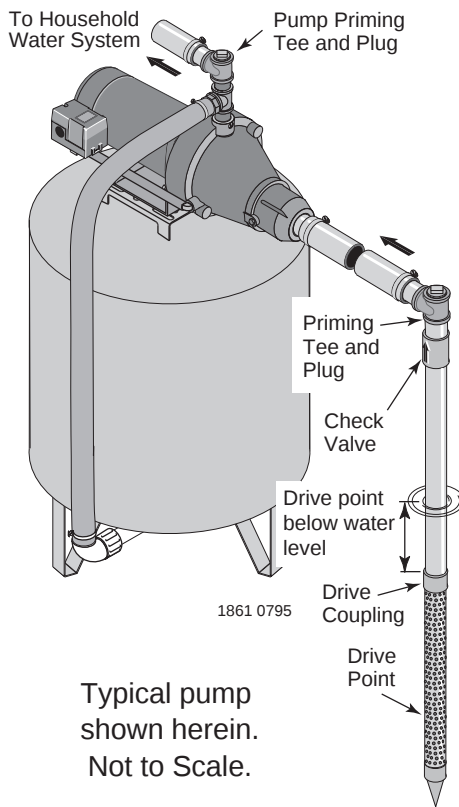

Figure 1: Driven Point Installation
Well Point (Driven Point) Installation (Figure 1)
3. Use the fewest possible fittings (especially elbows) when connecting the pipe from the well point to the pump suction port. The suction pipe should be at least as large as the suction port on the pump (include a check valve if your pump is not equipped with one – see Figure 1). Support the pipe so that there are no dips or sags in the pipe, so it doesn't strain the pump body, and so that it slopes slightly upward from the well to the pump (high spots can cause air pockets which can air lock the pump). Seal the suction pipe joints with Teflon™ tape or a Teflon™ based pipe joint compound. Joints must be air- and water-tight. If the suction pipe can suck air, the pump cannot pull water from the well. If one well point does not supply enough water, consider connecting two or three well points to one suction pipe.